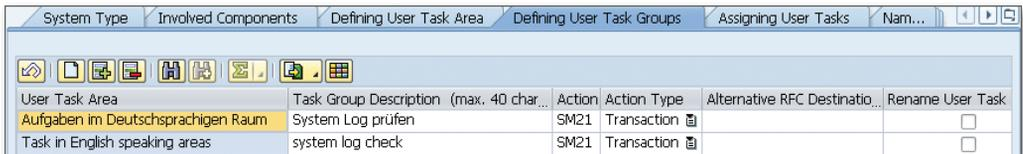

Figure 7.5 Maintaining Tasks
- ▶ In the USER TASK AREA column, select the USER TASK AREA that you created earlier and now want to use. Figure 7.5 shows that a task was created for each of the created USER TASK AREAS. Here, the task is to call Transaction SM21 (system log check).